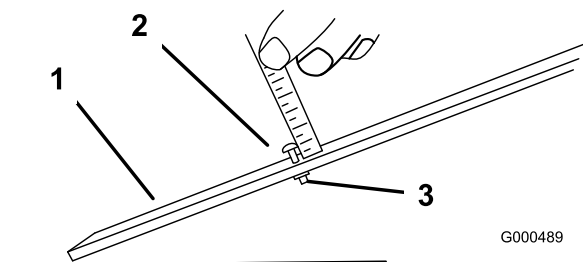

Figure 47
3. Loosen the nut on the gauge bar (Figure 47) and set the adjusting screw to the desired height-of-cut. The distance between the bottom of the screw head and the face of the bar is the height-of-cut.